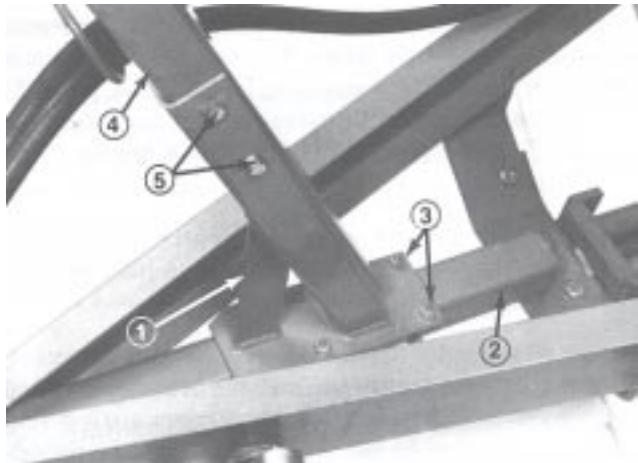

Figure 5
- Loosely secure lower control tower to center frame tube with (2) U-bolts and (4) 3/8-16 flange nuts (Fig. 5).
- Mount upper control tower to lower control tower with (2) 3/8-16 x 2-3/4 capscrews and (2) 3/8-16 flange nuts (Fig. 5).